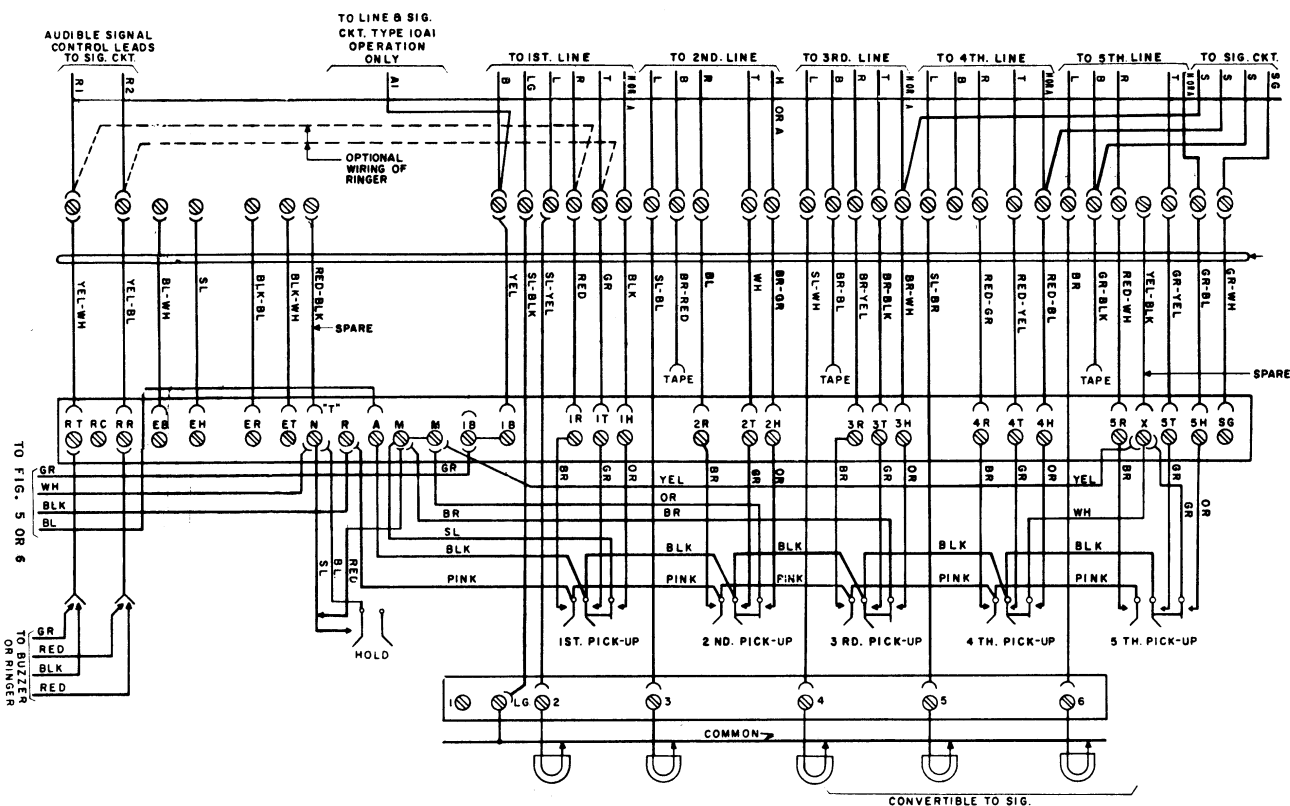

Fig. 4. Type 86 Push Button Assembly Circuit Diagram
2.01 The line cord color code and conductor assignment is included in the push button assembly circuit drawing (Fig. 4).